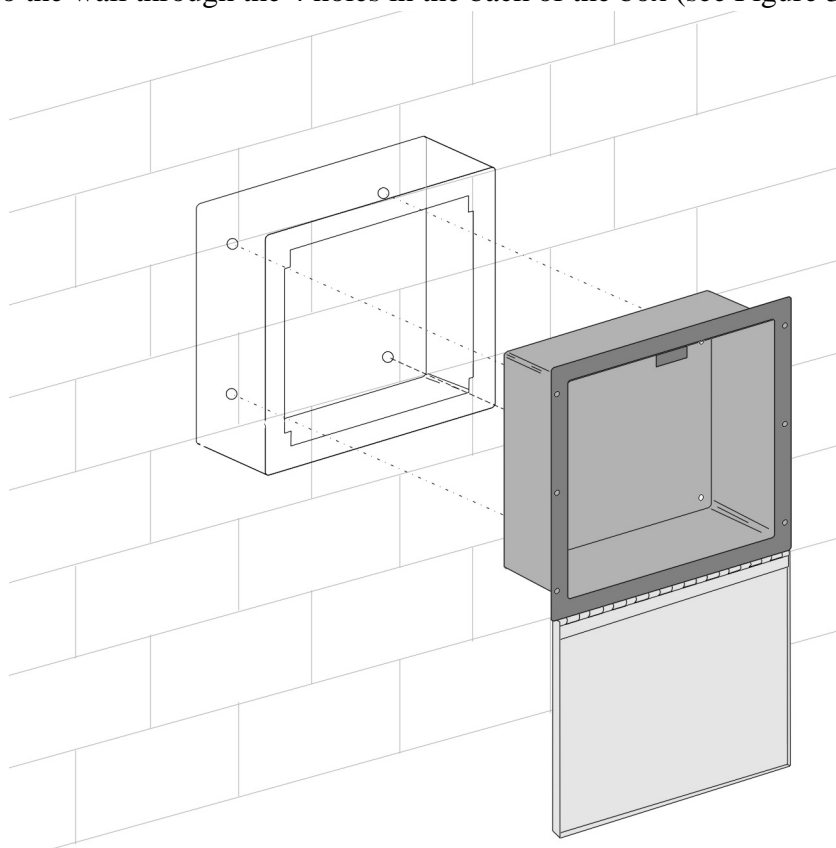

Figure 3-4 Surface Mount
3. Mount to the wall through the 4 holes in the back of the box (see Figure 3-4).